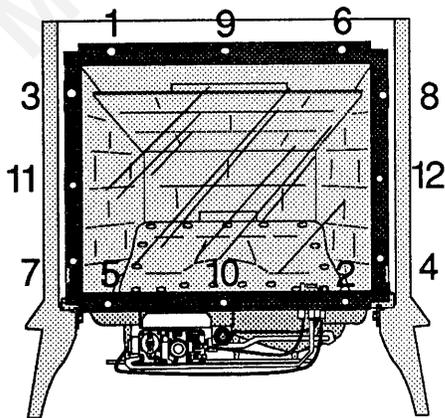

Figure 31. Tighten the screws in an alternating sequence.
Step 3. To avoid uneven pressure on the glass when tightening the screws, tighten them alternately, one half-turn at a time, until they are all snug. Fig. 31.